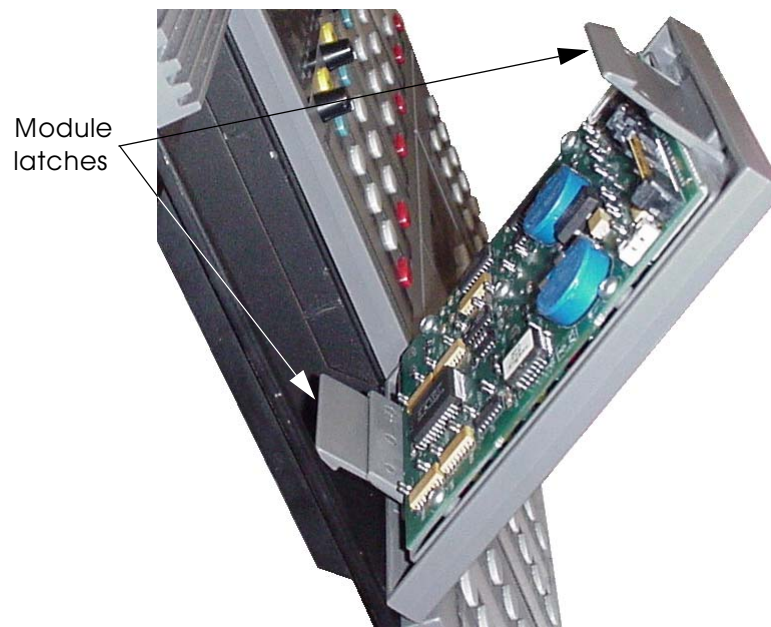

Figure 6-3: Module Latches (Desktop)
4. Press the two (2) module latches shown in Figure 6-3, while gently pushing the module out. Use your other hand to protect the module from damage (as from dropping it).